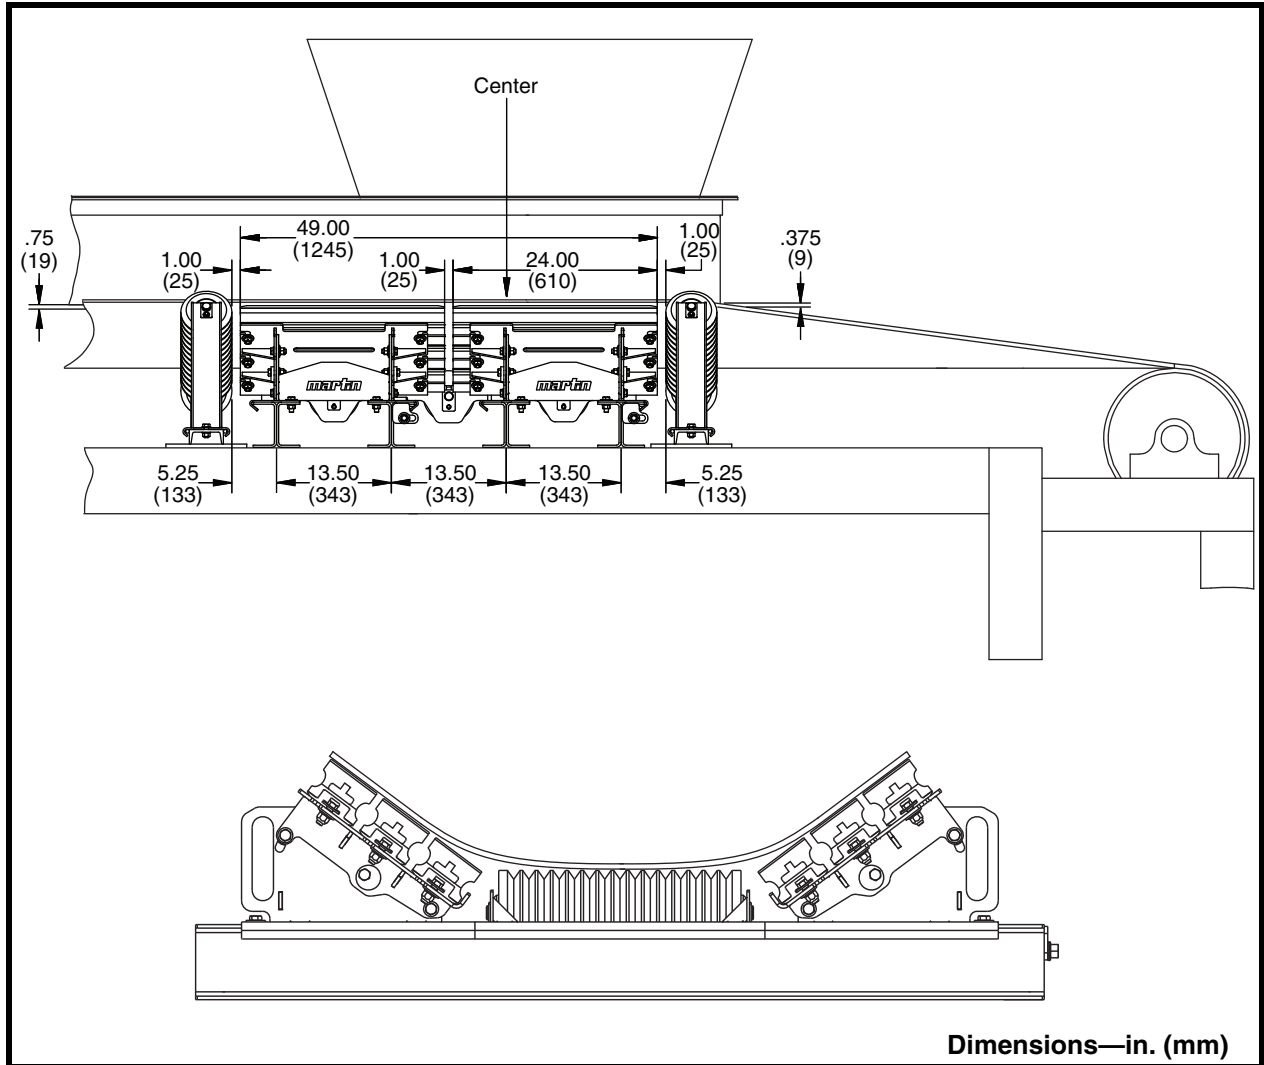

Figure 1. Measuring for Combination Cradle with Center Impact Roll
1. See Figure 1 or 2. The distance between top of belt and bottom of wear liners must increase over length of transfer point. If necessary, modify chute walls and/or wear liners.
1. Mark location of cross supports (B) on stringers (A). See Figure 1 or 2 for mounting dimensions.